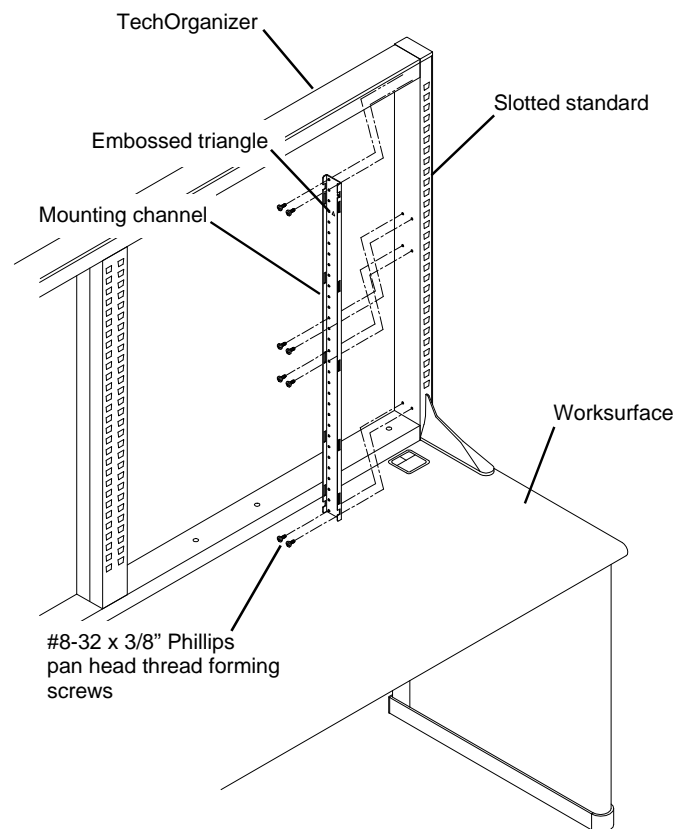

Figure 1
1. Attach the steel **Mounting Channels** to the sides of the Organizer frame slotted standards by aligning the holes in the Channels with the pre-punched holes in the standards and securing them with the #8-32 x 3/8" Phillips pan head thread forming screws provided. See **Figure 1**. **NOTE:** Be sure that the embossed triangle at the end of each Channel is at the top.